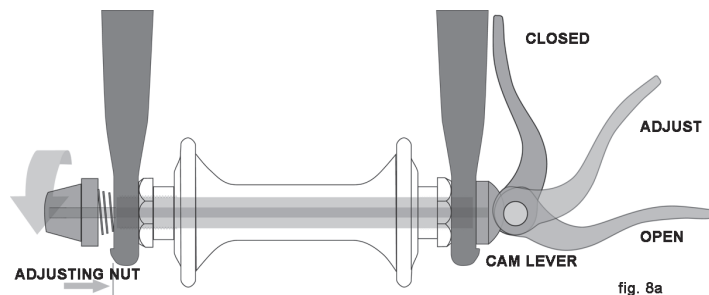
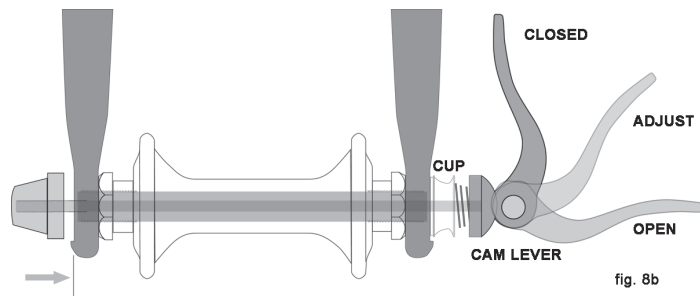
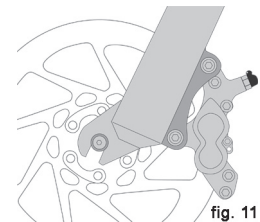
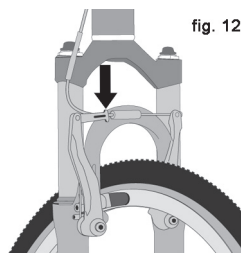

fig. 8a
fig. 8b
fig. 11
fig. 12
There are currently two types of over-center cam wheel retention mechanisms: the traditional over-center cam (fig. 8a) and the cam-and-cup system (fig. 8b). Both use an over-center cam action to clamp the bike's wheel in place. Your bicycle may have a cam-and-cup front wheel retention system and a traditional rear wheel cam action system.
a. Adjusting the traditional cam action mechanism (fig. 8a)
b. Adjusting the cam-and-cup mechanism (fig. 8b)
(1) If your bike has rim brakes, disengage the brake's quick-release mechanism to increase the clearance between the tire and the brake pads (See Section 4.C fig. 11 through 15).
(2) If your bike has cam action front wheel retention, move the cam lever from the locked or CLOSED position to the OPEN position (figs. 8a & b). If your bike has through bolt or bolt-on front wheel retention, loosen the fastener(s) a few turns counter-clockwise using an appropriate wrench, lock key or the integral lever.
(3) If your front fork has a clip-on type secondary retention device, disengage it and go to step (4). If your front fork has an integral secondary retention device, and a traditional cam action system (fig. 8a) loosen the tension adjusting nut enough to allow removing the wheel from the dropouts. If your front wheel uses a cam-and-cup system, (fig. 8b) squeeze the cup and cam lever together while removing the wheel. No rotation of any part is necessary with the cam-and-cup system.
(1) If your bike has cam action front wheel retention, move the cam lever so that it curves away from the wheel (fig. 8b). This is the OPEN position. If your bike has through bolt or bolt-on front wheel retention, go to the next step.
(2) With the steering fork facing forward, insert the wheel between the fork blades so that the axle seats firmly at the top of the fork dropouts. The cam lever, if there is
one, should be on rider's left side of the bicycle (fig. 8a & b). If your bike has a clip-on type secondary retention device, engage it.
(3) If you have a traditional cam action mechanism: holding the cam lever in the ADJUST position with your right hand, tighten the tension adjusting nut with your left hand until it is finger tight against the fork dropout (fig. 8a). If you have a cam-and-cup system: the nut and cup (fig. 8b) will have snapped into the recessed area of the fork dropouts and no adjustment should be required. (4) While pushing the wheel firmly to the top of the slots in the fork dropouts, and at the same time centering the wheel rim in the fork:
(a) With a cam action system, move the cam lever upwards and swing it into the CLOSED position (fig. 8a & b).
(2) If your bike has rim brakes, disengage the brake's quick-release mechanism to increase the clearance between the wheel rim and the brake pads (see Section 4.C, figs. 11 through 15).
(3) On a derailleur gear system, pull the derailleur body back with your right hand.
(4) With a cam action mechanism, move the quick-release lever to the OPEN position (fig. 8b). With a through bolt or bolt on mechanism, loosen the fastener(s) with an appropriate wrench, lock lever or integral lever; then push the wheel forward far enough to be able to remove the chain from the rear sprocket.
(5) Lift the rear wheel off the ground a few inches and remove it from the rear dropouts.
Some bikes are equipped with a cam action seat post binder. The seat post cam action binder works exactly like the traditional wheel cam action fastener (Section 4.A.2) While a cam action binder looks like a long bolt with a lever on one end and a nut on the other, the binder uses an over-center cam action to firmly clamp the seat post (see fig. 8a).
3. Some bicycle brakes, such as disc brakes (fig. 11) and linear-pull brakes (fig. 12), are extremely powerful. Take extra care in becoming familiar with these brakes and exercise particular care when using them.
wheel is removed or reinstalled. When the brake quick release is in the open position, the brakes are inoperative. Ask your dealer to make sure that you understand the way the brake quick release works on your bike (see figs. 12, 13, 14 & 15) and check each time to make sure both brakes work correctly before you get on the bike.